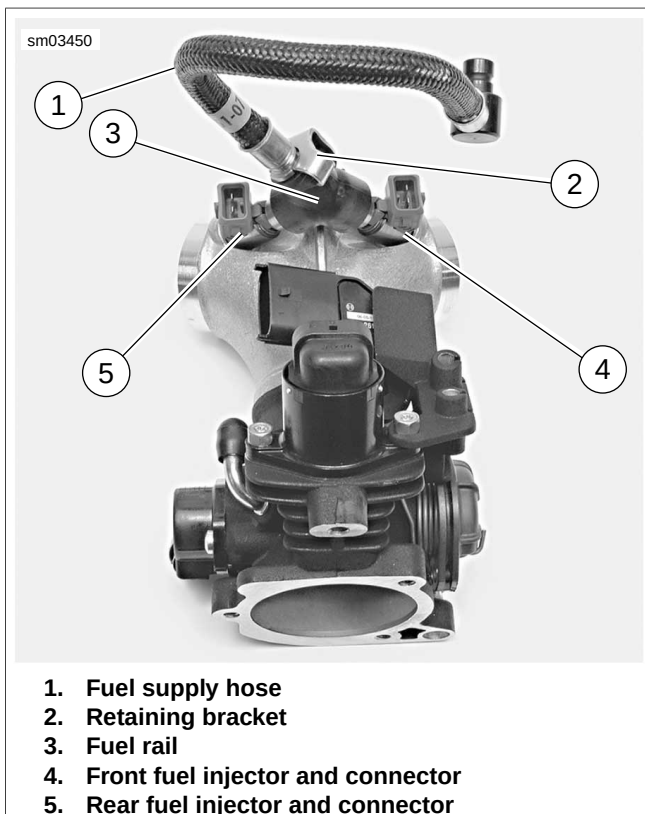
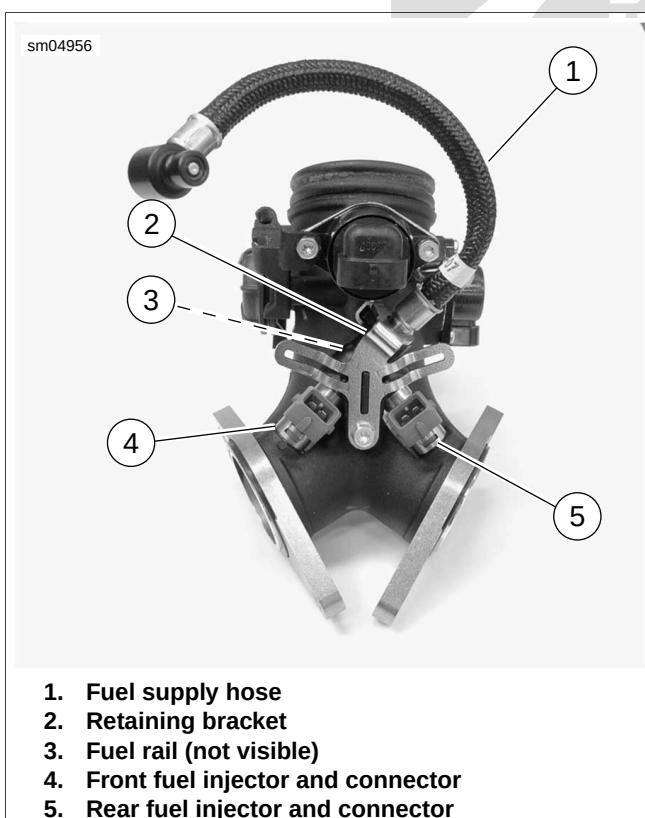

Figure 4-74. Fuel Injector Assembly Location: XL Models
Figure 4-75. Fuel Injector Assembly Location: XR Models
2. Push fuel injectors into intake manifold (XL models) or induction module (XR models) with harness connectors (7, 8) facing up. Rotate fuel injectors so that harness connectors are positioned, as shown in either Figure 4-74 or Figure 4-75 depending on model being serviced.
3. Gently press fuel rail onto free end of fuel injectors. Press fuel rail down until hole in fuel rail molded-in bracket lines up with mounting hole in intake manifold (12).
XR Models: See Figure 4-75. The fuel injector harness leads must **NEVER** be routed between the retaining bracket (2) and induction module body. Improper routing will result in chafing of the insulation resulting in poor engine performance.
6. Connect engine sub-harness connectors to the fuel injectors. Ensure wire harnesses are routed outside the wings of retaining bracket (2) on XR models.